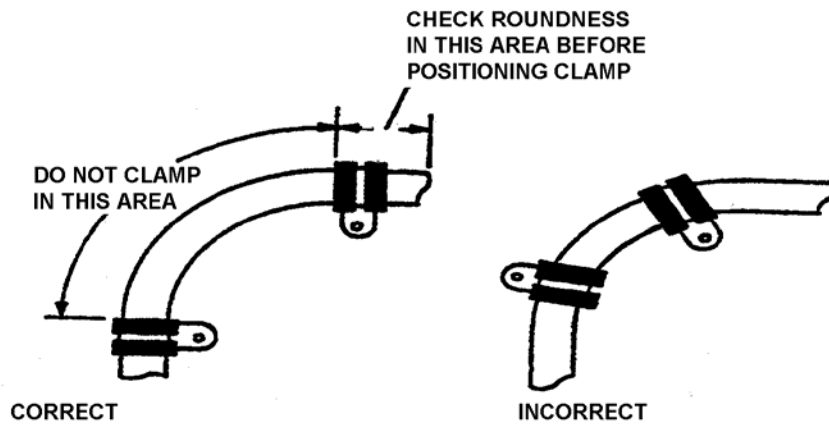

Figure 8. Clamping Bend Tubes
27. Clamping Bend Tubes. Tubing should be supported to rigid structure as close to the tube bends as possible, as this is an area of pressure buildup and surge, especially in hydraulic and fuel systems. As tubing is no longer perfectly round after bending, check the tube for roundness, before positioning the clamp and securing it to the structure. Clamping on the tube bend or out-of-round areas will distort the clamp, causing abrasion and subsequent clamp and tube failure. Locate the clamp mounting, where possible, to the inside of the bend for the best structural advantage (Figure 8).